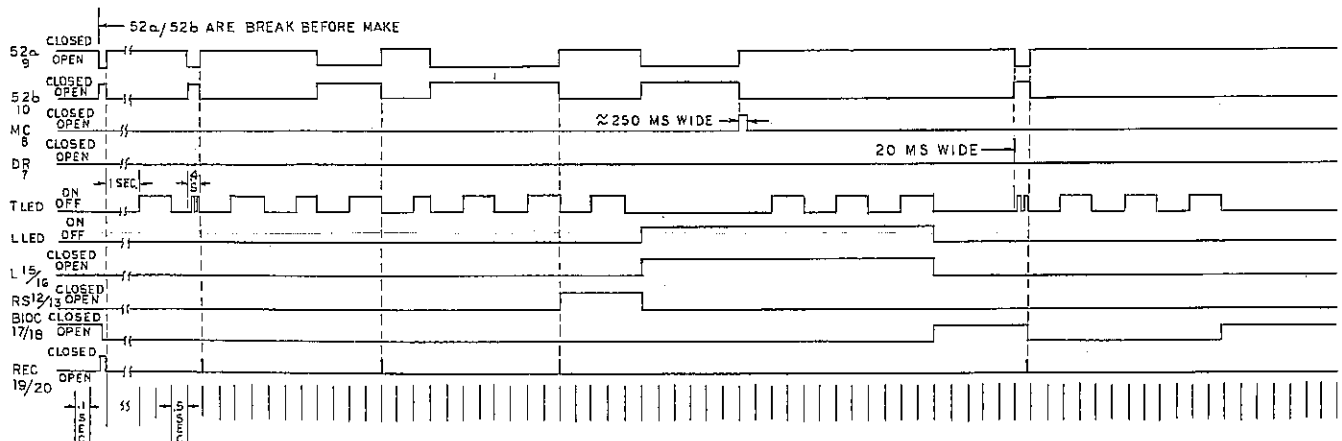

Fig. 12 (0179C6299-1) Relay Timing Example
52a, 52b, MC and DR of Fig. 12 are the input signals to the relay. All other signals are relay outputs.
- Fig. 12 Relay Timing Example